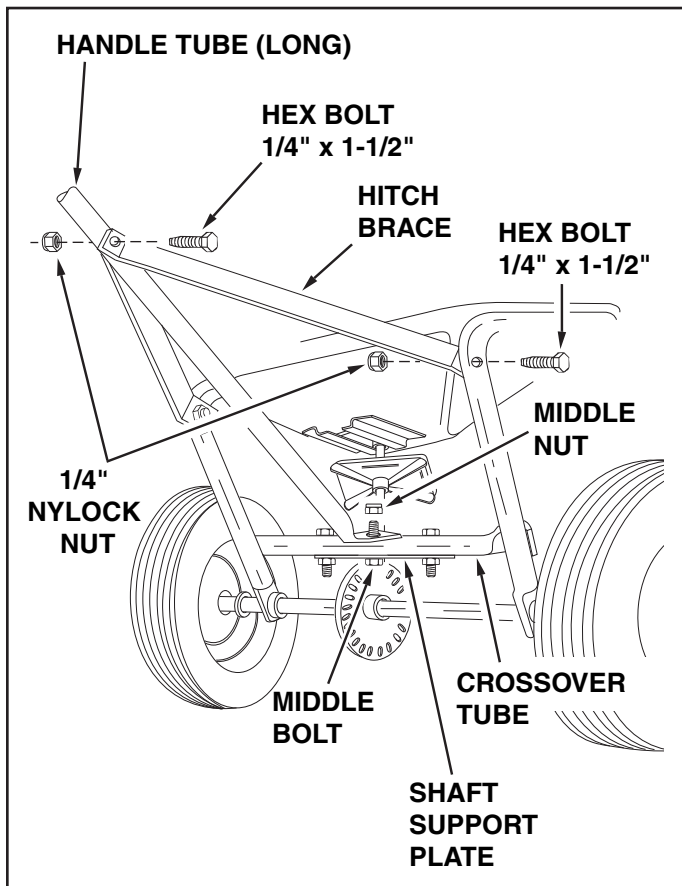

FIGURE 5
10. Assemble two handle braces to the inside of the hopper frame, one on each side, using two 1/4" x 1-1/2" hex bolts and two 1/4" nylock nuts. See figure 5. **Do not tighten at this time.**
11. Assemble the other end of the two handle braces to the long handle tube using a 1/4" x 1-1/2" hex bolt and 1/4" nylock nut. **Do not tighten at this time.** See figure 5.
12. **Tighten** all nuts and bolts in same sequence as assembled in steps 9 through 11. See figure 5.